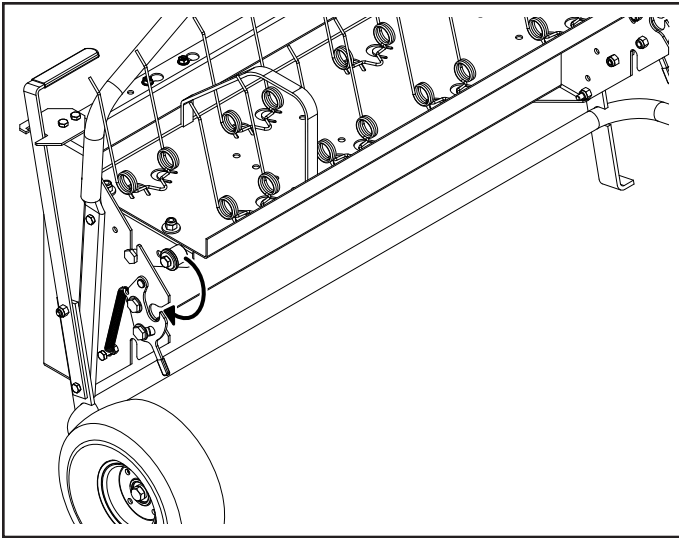

FIGURE 13
1. With the platform standing on footstands, slide the shoulder bolts on the dethatcher down into the retainer slots. See figure 13.
2. Rotate the dethatcher until the bushings go into the axle retainers. See figure 13.